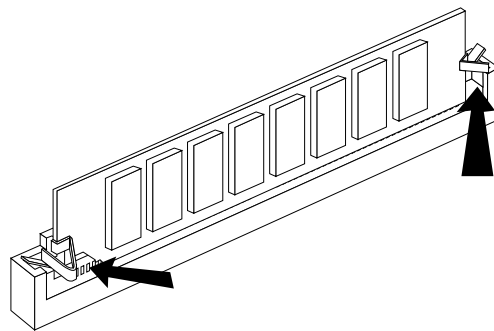

Figure 3-23 Removing a Memory SIMM from an IRIS Indigo R4000 Family Workstation
- Use your thumbs to press the latches away from the sides of the SIMM, as shown in Figure 3-23.